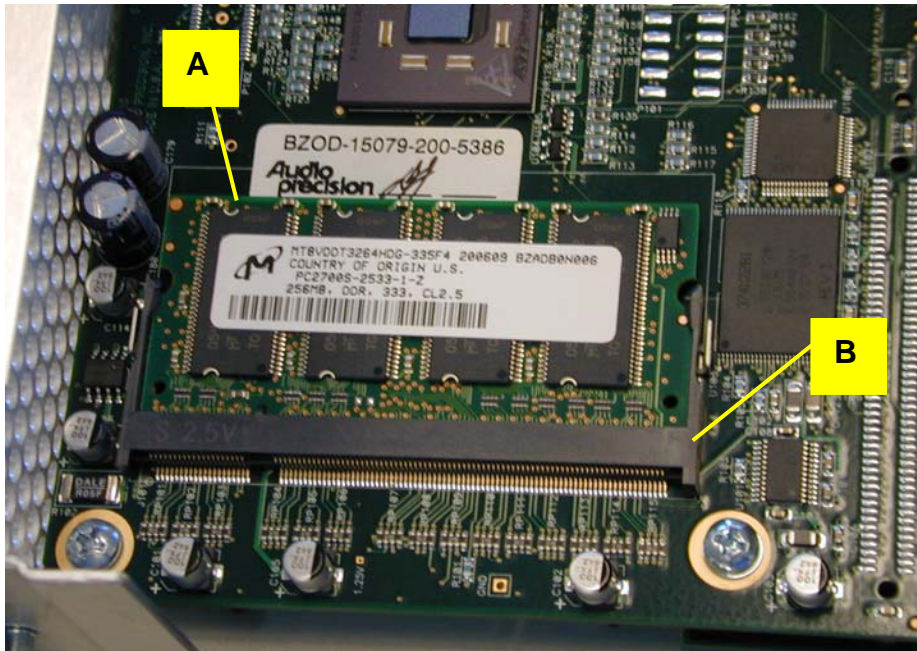

Figure 3 BZOD module and BZOD memory module
13. If all the BZOD module LED indicators are lighted, then the memory assembly (figure 3 point A) on the BZOD module may not be fully inserted into the mounting socket (figure 3 point B).